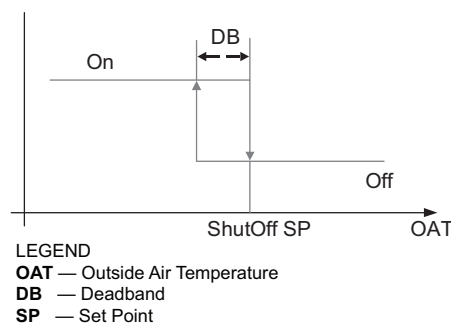

Fig. 76 — Hysteresis Settings
Hysteresis setting (DB) defaults to 2°F (–16.6°C). See Fig. 76.